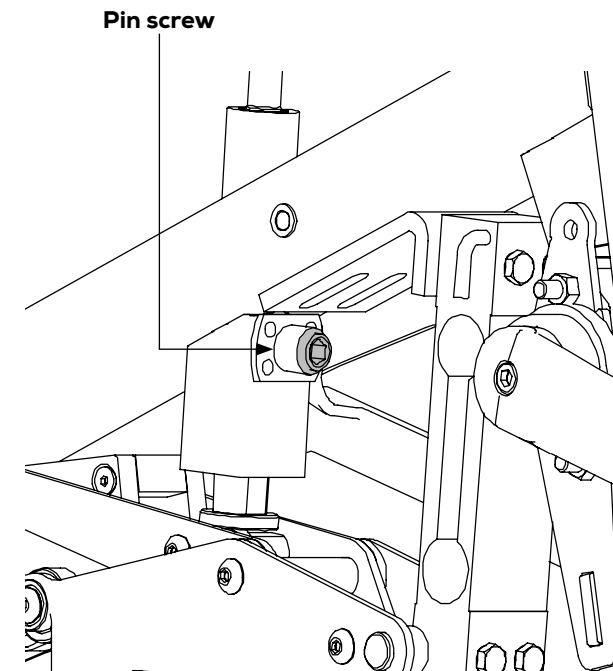

Figure 26
- 2) Find the pin screw on the brake housing. See figure 26.